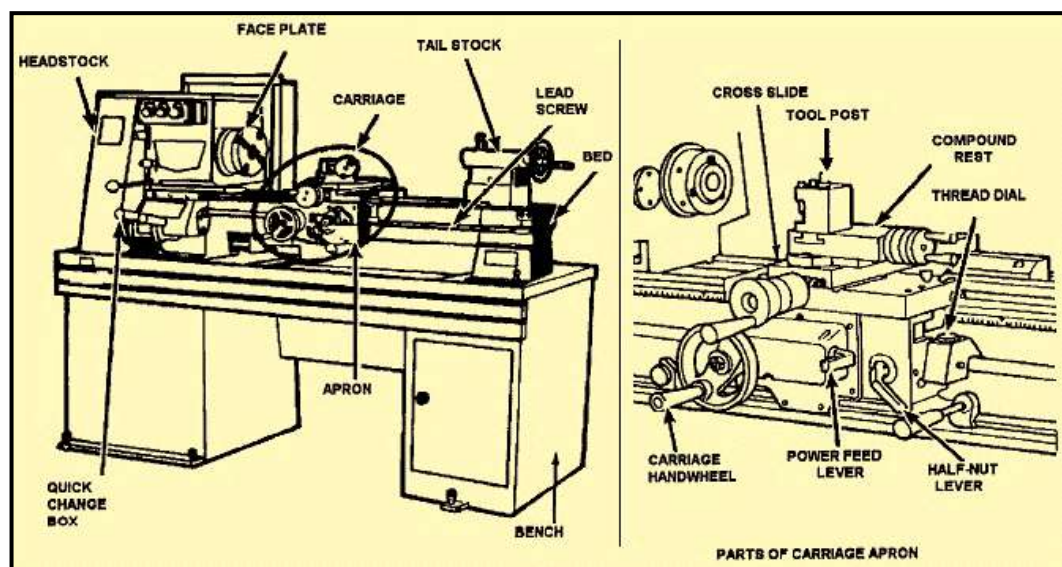

Figure 7-3. Lathe components.
**Engine Lathes:** All have the same general functional parts even though the specific location or shape of a certain part may differ from one manufacturer. The bed is the foundation of the working parts of the lathe to another (Figure 7-3).